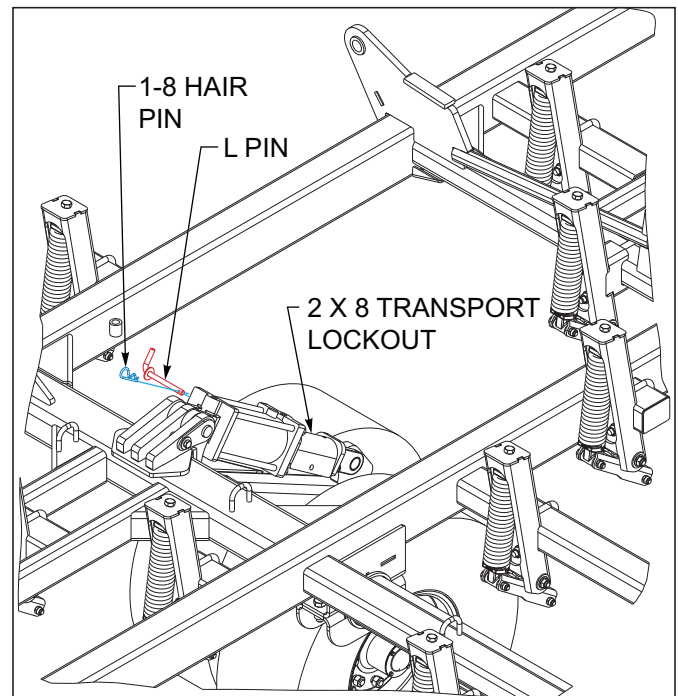
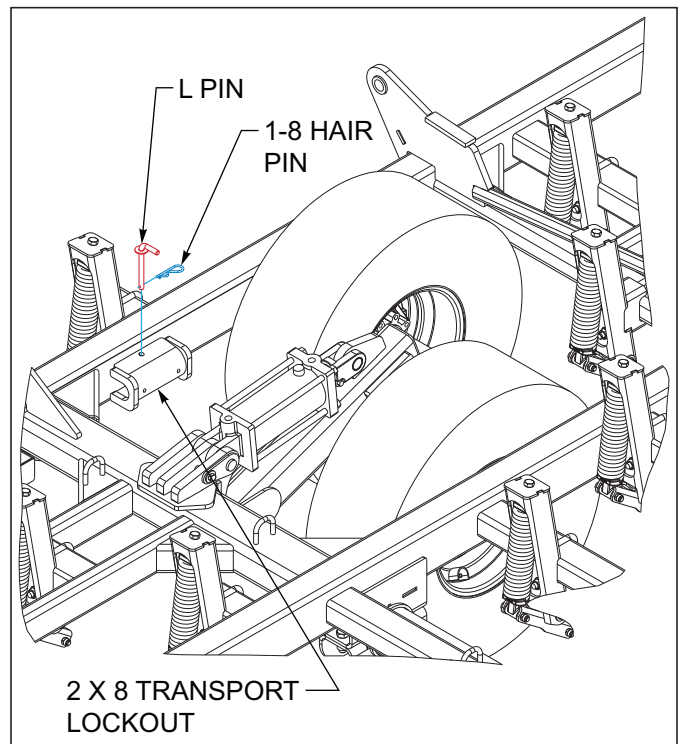

Figure 4-3: Installed Transport Locks
Figure 4-4: Stored Transport Locks
2. The hydraulic system is not filled with oil and should be purged of air before transporting and field operations. Carefully hitch the Tilloll to the tractor and connect the hydraulic lift hoses. Check to make sure the tractor hydraulic reservoir is full of the manufacturer's recommended oil. Slowly raise the machine, and continue to hold the hydraulic lever until all lift cylinders are fully extended. Lower and raise the unit to verify that all cylinders are working simultaneously throughout the stroke. If the cylinders are not working evenly or together, fully extend the lift cylinders and continue to hold the lever to purge any remaining air. Do not loosen any hoses or fittings. Recheck tractor reservoir to make sure it is within operating limits. With all cylinders fully extended, install the 2 X 8 transport lockouts *See Figure 4-3*. Storage location for lockouts *See Figure 4-4*.